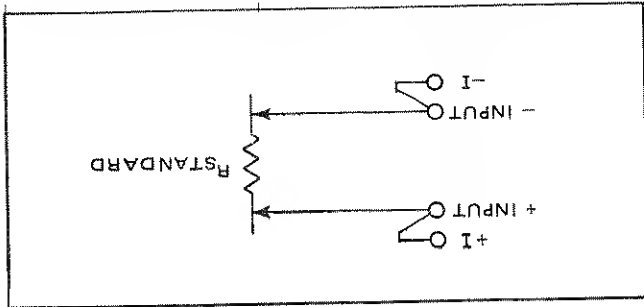

Figure 5.6 - Connections for Ohms Range Adjustment
- Connect standard resistors to the input in the order listed in the following table. Select range as listed for each step and adjust the indicated control for a readout equal to the standard resistor value. Connect as shown in figure 5.6.